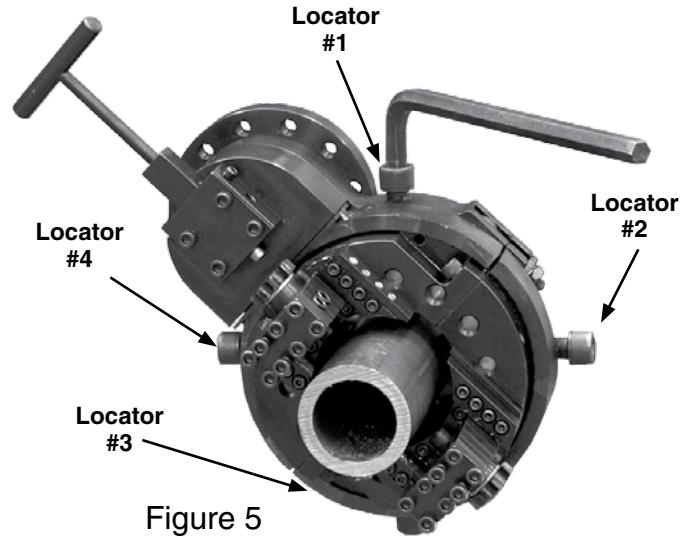

Figure 5
2. Centering: Using a scale, measure the distance from the pipe OD to the clamshell ID at opposing locator positions (#1 and #3, #2 and #4 in Figure 5). Adjust the locator pads until they are as close to the same dimension as possible. Tighten the locators securely to lock the machine in position on the pipe. Remove lock pins so the ring gear can rotate.